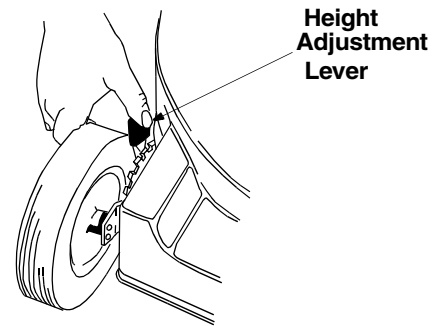

Figure 11
- Simply depress the lever towards wheel and move it to any of the nine positions for the desired cutting height. See Figure 11. All four levers on the four wheels must be placed in the same relative position for uniform cutting height